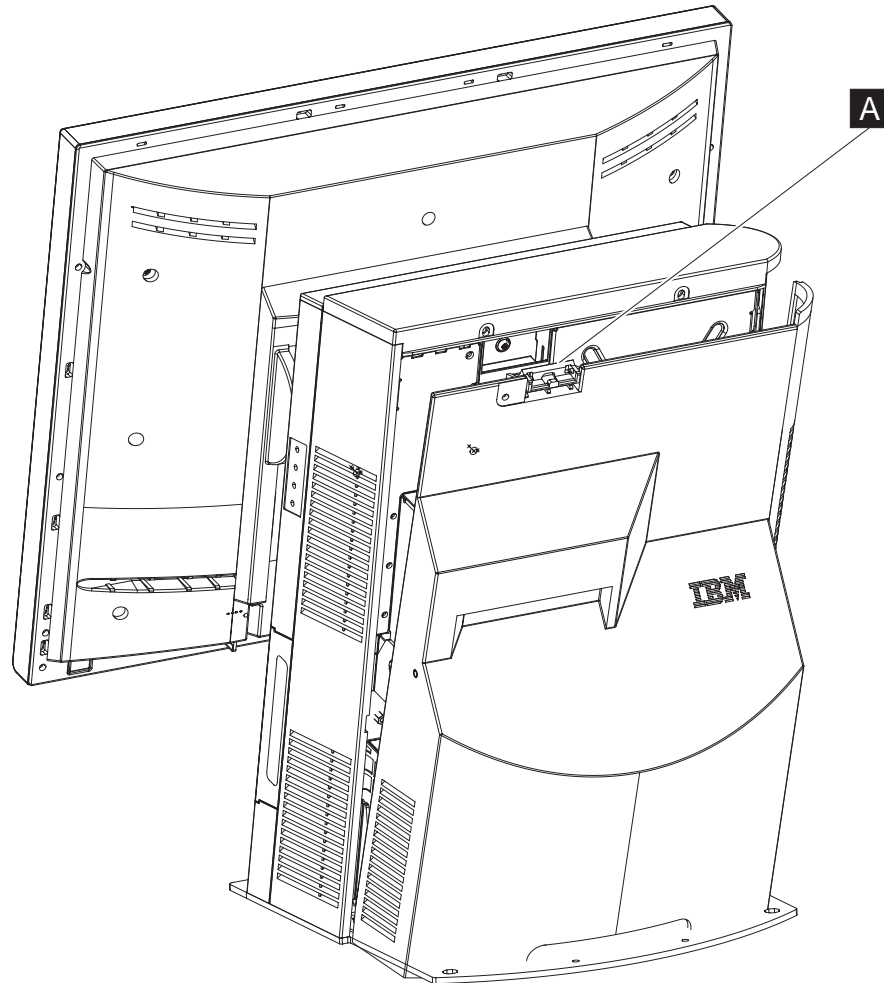

Figure 8. Removing the rear cover
2. Facing the rear of the system, press down on the latch **A**, and pull back the rear cover as shown in Figure 8, then lift the rear cover away from the unit.